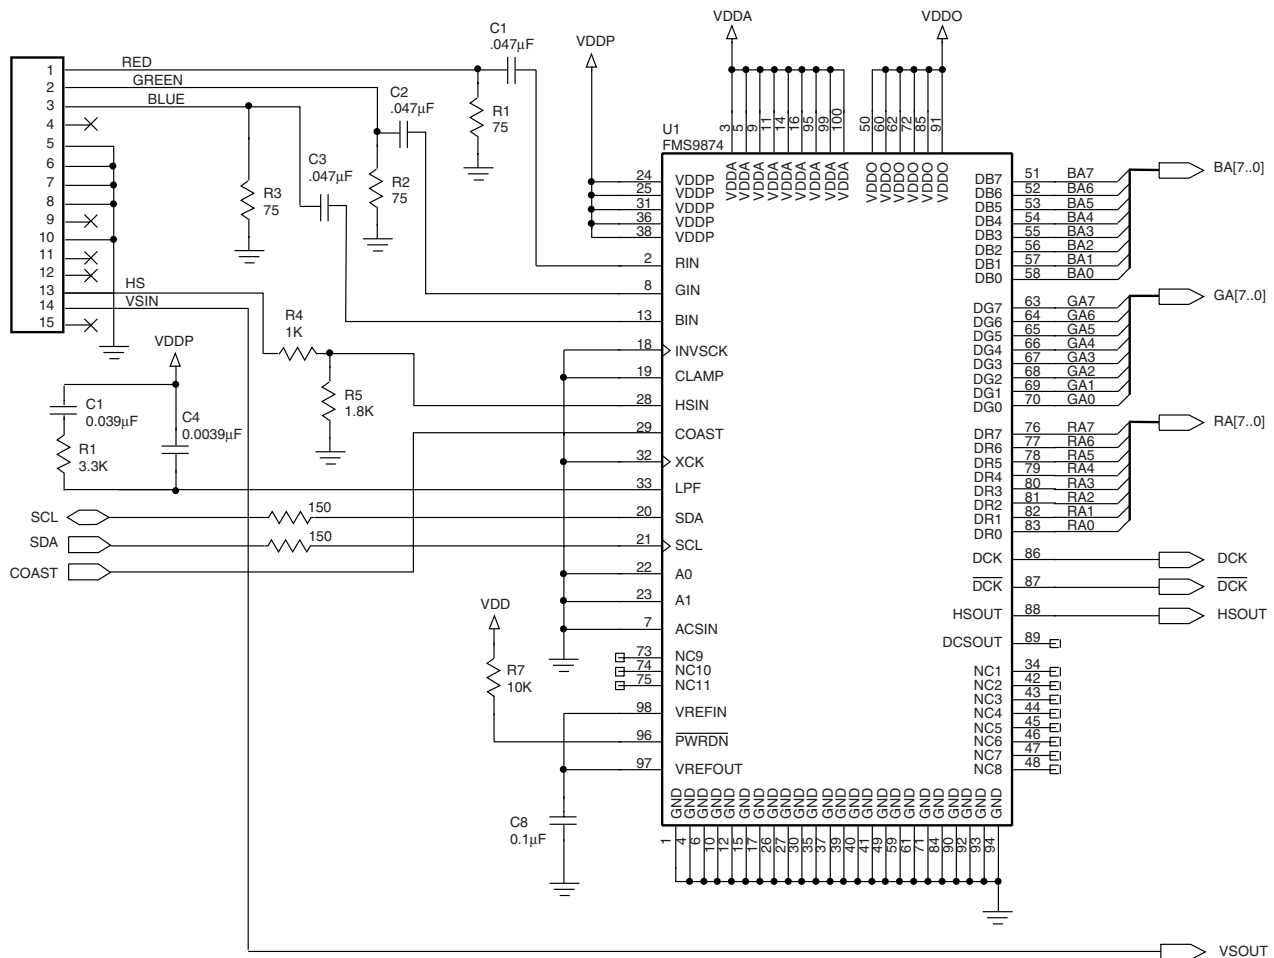

Figure 24. Schematic, VGA Digitizer, AC Coupled RGB
Shown in Figure 24 is an implementation of a video digitizer with AC coupled RGB inputs. Horizontal sync input, HS is passed through a voltage divider which attenuates the 5.0 V logic HIGH excursion to the 3.3 V HIGH input level of the FMS9874A. Vertical sync bypasses the FMS9874A.
3. Each  $V_{DDP}/GND$  pin pair: 24&25/26, 31/30, 36/35, and 38/37 should be decoupled with either a 0.01µF or a 0.1µF capacitor (see Figure 24). If board space is limited, use as many capacitor pairs as possible.